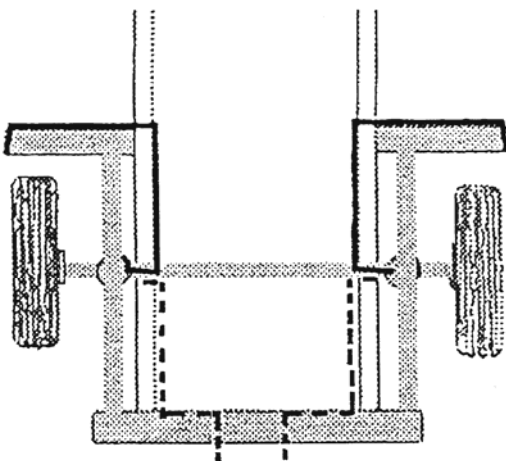

FIGURE 3
- 6 Select a location for the inflation valves in the rocker sills or rear floor pan ensuring that each valve will be protected and accessible with an air hose. (Figure 3).